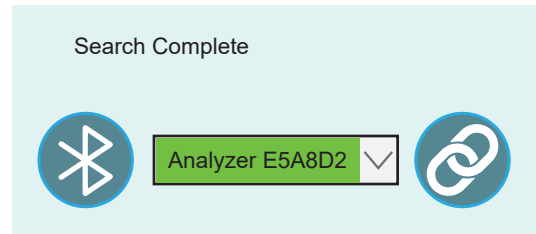

Figure 30. Successful Connection
- The drop-down menu will turn green when connected. See Figure 30.